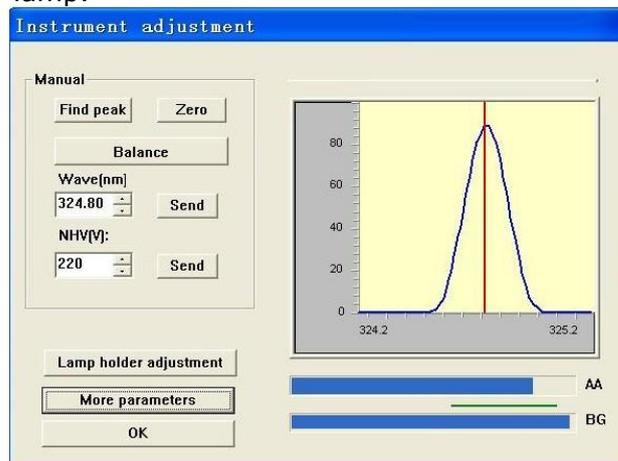

Figure 6-16
7. After light source correction has been completed, as shown in Figure 6-16, press "Balance" to balancing the deuterium lamp and the element lamp.